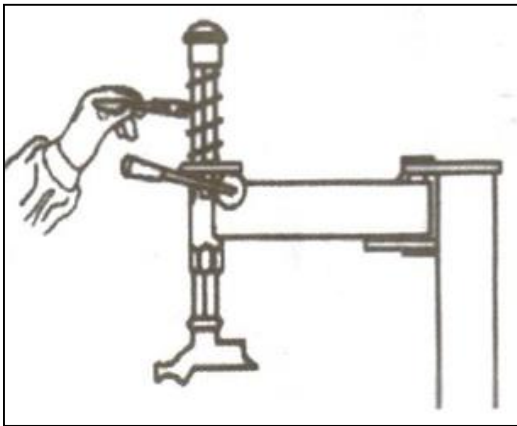

Fig. 25
- Clean hexangular shaft (Fig. 25). Use machine oil to lubricate the shaft.